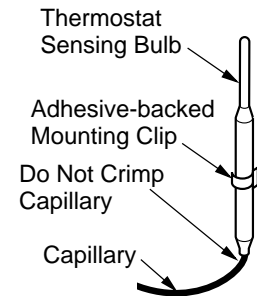

Figure 53 - Positioning the Thermostat Sensing Bulb in the Vertical Position with the Capillary at the Bottom
4. The mounting clip must be a minimum of 3" from bottom of fireplace to prevent crimping of capillary. Once you have decided on a location, clean the area thoroughly. Remove the paper backing from the adhesive on back of mounting clip. Press the clip into the new location so that the thermostat sensing bulb will be positioned vertically with the capillary at the bottom (see Figure 53). Slide the thermostat sensing bulb into the clip.